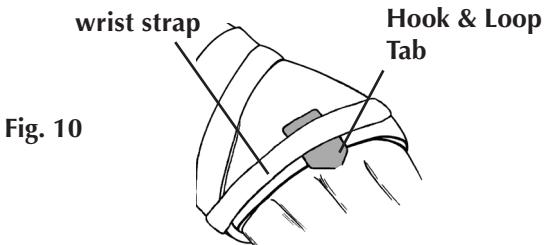

Fig. 10
6. If the Hook and Loop Tab is lifting the Cuff up away from the hand, the tab may be placed onto the Cuff first and the wrist strap wrapped on top of it (Fig. 10). Some cuff lifting is normal.